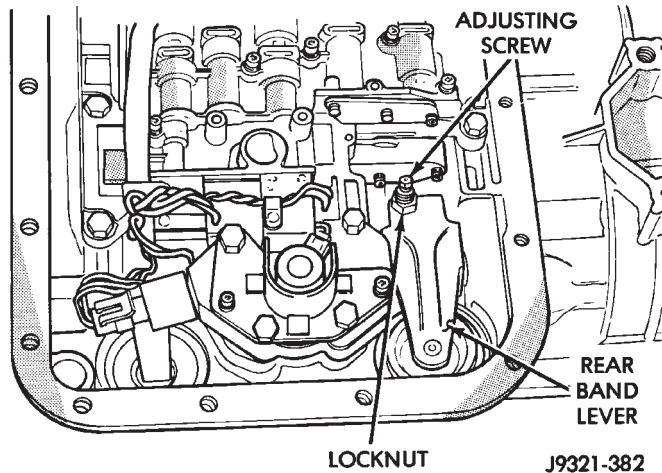

Fig. 262 Rear Band Adjusting Screw Location
(1) Raise vehicle.
(2) Remove transmission oil pan and drain fluid.
(3) Loosen band adjusting screw locknut 5-6 turns (Fig. 262). Be sure adjusting screw turns freely in lever.
(4) Tighten adjusting screw to 8 N·m (72 in. lbs.) torque.